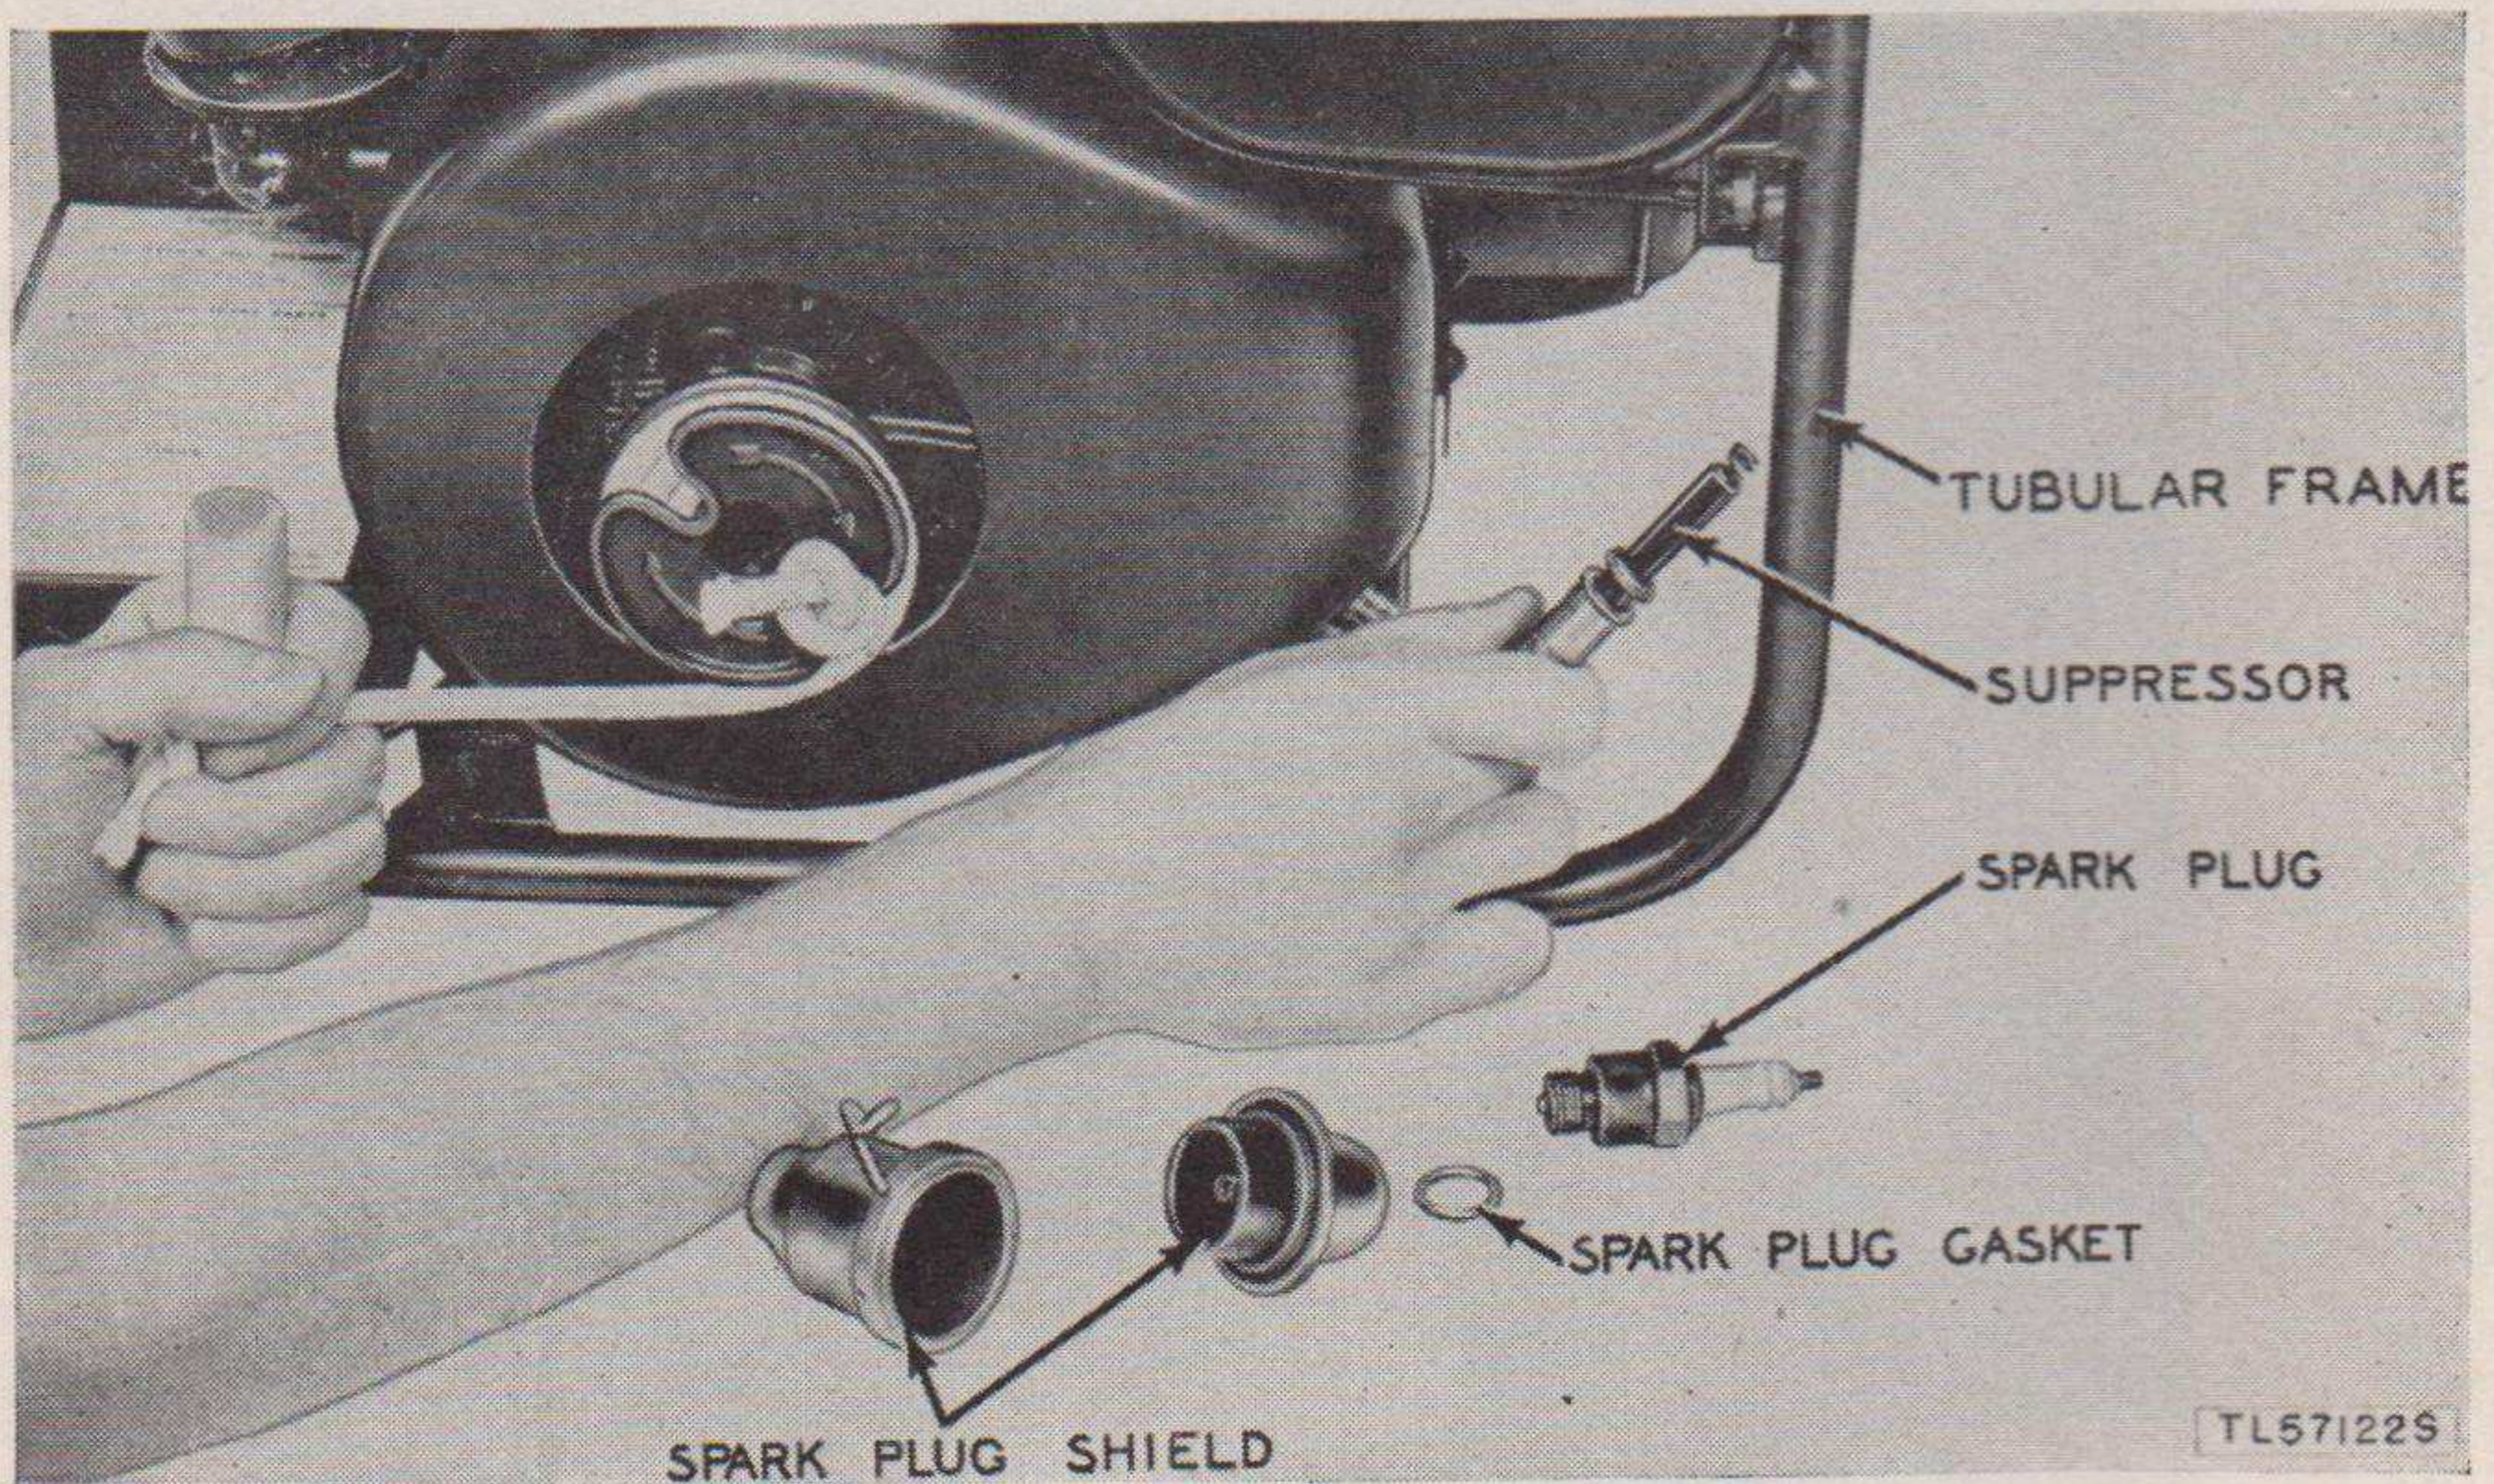

Figure 30. Testing magneto spark.
a. **TESTING** (fig. 30). Remove spark plug shield and cable and hold end of suppressor about  $\frac{3}{16}$  inch away from a point on the engine or frame. Spin the engine with the starting rope and watch for spark at end of ignition cable. If magneto is operating properly, a spark should jump the gap. If a spark strong enough to jump the gap is not produced, check the magneto points and capacitor. Also inspect the magneto cable carefully to be sure that it is properly connected and is in good condition.